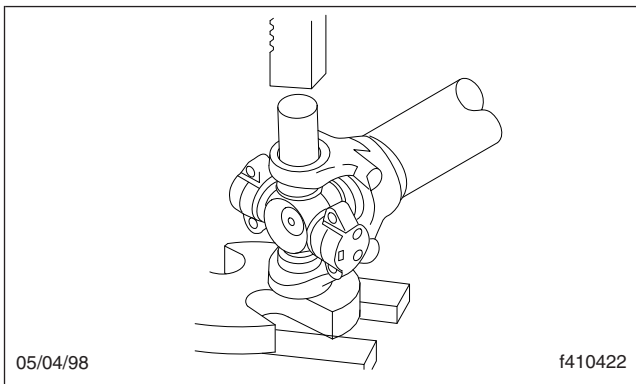

Fig. 12, Installing Bearing Cups, RPL Series U-Joint
- 4.3 Press the bearing cup into the yoke slightly past the snap ring groove. See **Fig. 12**. Check that the bearing cup is aligned with the universal joint trunnion.